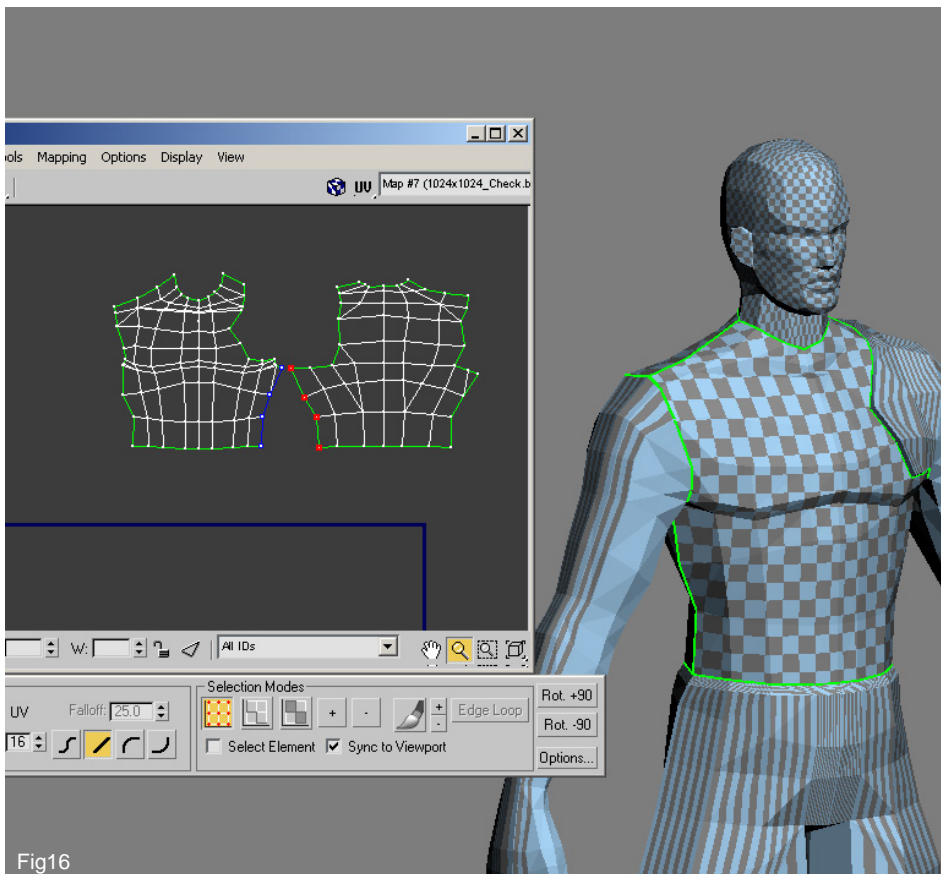

Fig16
16. Follow the same procedure for the back to complete the torso area and then with all of these poly's selected in sub-object mode apply an Unwrap UVW. In Fig 16 you can see that I have moved the two pieces alongside one another with the intention of welding the verts highlighted in the top left which run under the arm. You will also notice that the two sections have been moved outside the template and are currently of a lower resolution than the face due to the larger checker pattern.